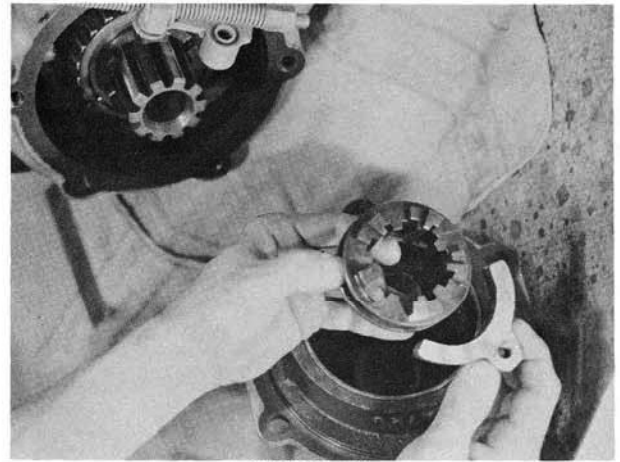

Figure 9
c. Remove Part Number 6718 Shifting Jaw Clutch (Figure 8) and the Shifting Yoke (Figure 9) from the Axle Housing.